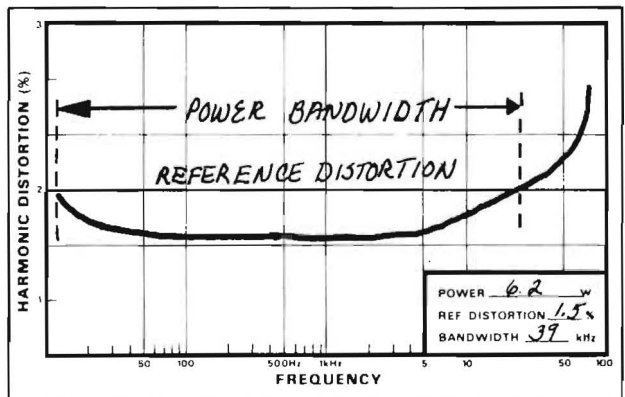

Figure 31 Power Bandwidth of an Amplifier
2. Measure the distortion of a 1 kHz tone at the rated power output of the amplifier. This is the **REFERENCE DISTORTION** and should be plotted on the chart as shown in Figure 31.